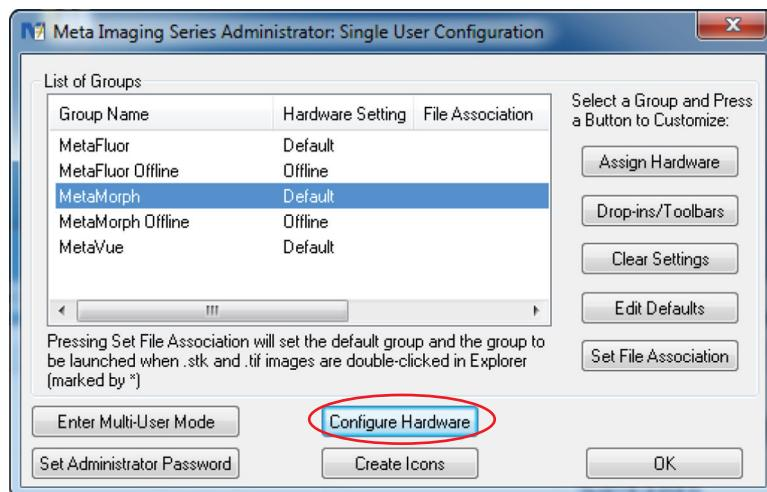

Figure VI-8. Configure Hardware Button
3. Click the Configure Hardware button, shown in Figure VI-8.